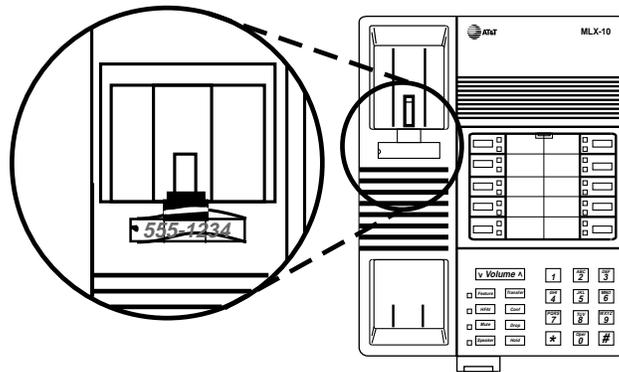

Figure 3–36. Replacing the Extension Label
- a Insert one end into the slot and snap the other end into place. See Figure 3–36.